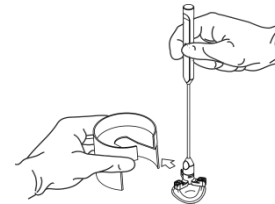

Figure 3: Remove the valve from the protective plastic glass.
4. Put on the gloves and remove the valve from the protective plastic glass as shown in Figure 3.